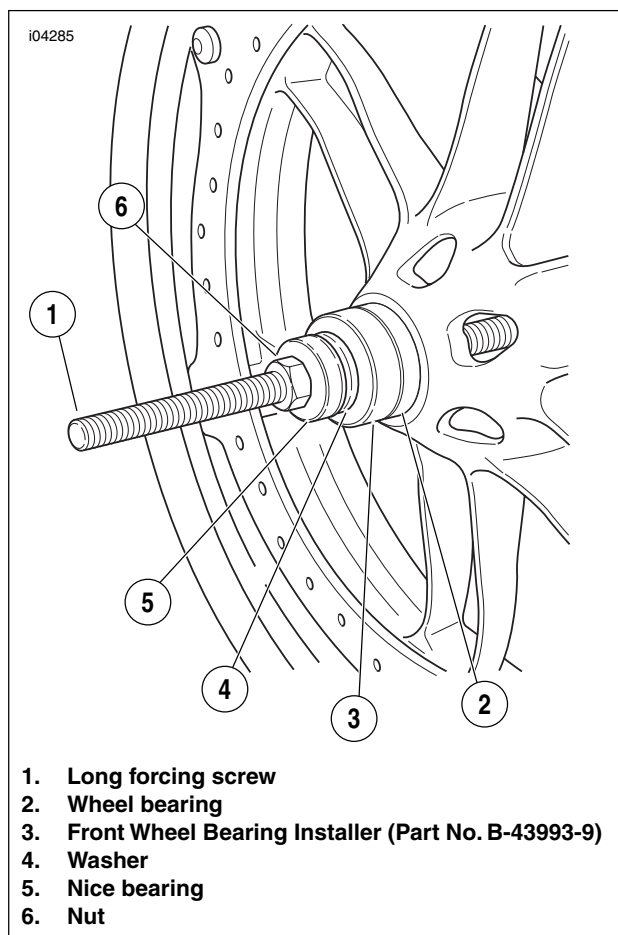

Figure 2-13. Installing Wheel Bearings
2. See Figure 2-13. Sparingly apply EXTREME PRESURE LUBRICANT (Part No. J-23444-A) to the threads of the long forcing screw (1) to prolong service life and ensure smooth operation.
3. Insert a **new** wheel bearing (2) squarely into the hub, with the lettered side pointing out (away from the wheel).
4. Slide the FRONT BEARING INSTALLER (Part No. B-43993-9, from kit Part No. B-43993-50) (3) onto the forcing screw (1), with the smaller diameter toward the bearing bore.
5. Install a washer (4), Nice bearing (5) and nut (6) onto the forcing screw (1).
6. While holding the forcing screw (1), tighten the nut (6) until the bearing is seated firmly against the shoulder inside the bearing bore in the wheel hub.